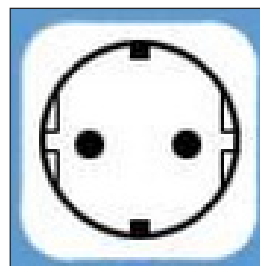

fig. 24 - Schuko socket
- a Schuko wall socket with ground and separate protection is required (fig. 24);